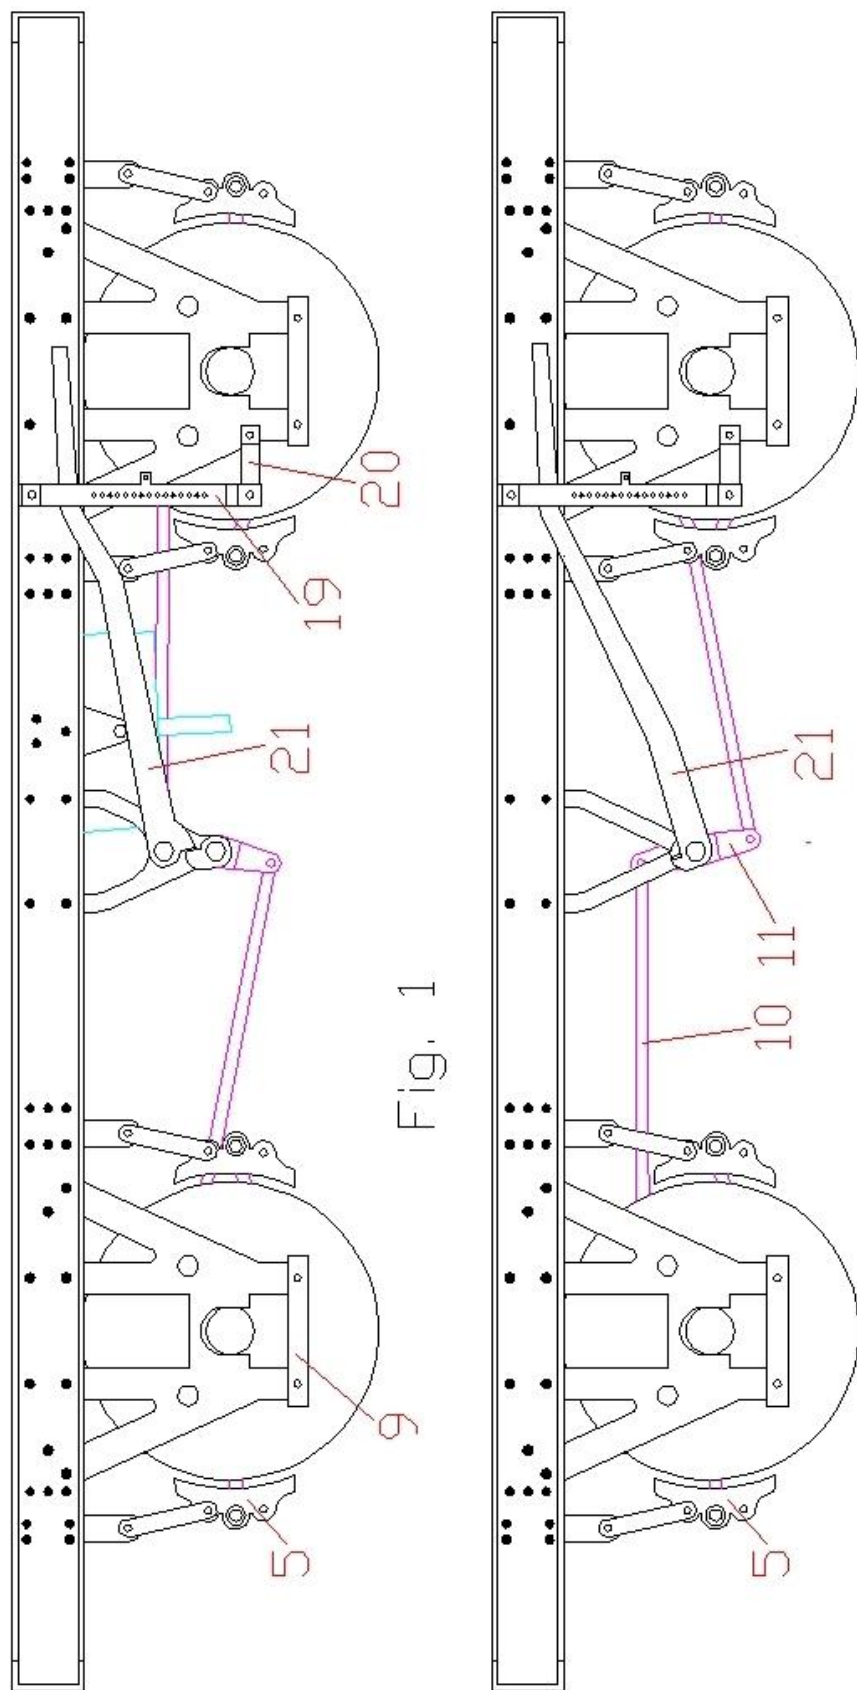

Fig. 1
The solebar detailing (15) comes contained in its own little fret. See Fig.1. On it you will find fabricated axle spring stops, number plates, label clips, a rectangle that is actually a block of wood on the real thing and some small round dual depth plates. I have no idea what the purpose of the last two items is but the rectangular block of wood was quite common and the round plates could be found on shock absorbing vans where the springs
There are 6 fabricated spring stops on the solebar detailing (15) fret (see Fig.1) which can be folded up and then soldered in place. I find a small pair of self closing tweezers good for this. Some wagons had round pattern spring stops though I'm not sure this applies to the LMS clasp brake chassis. I have used 1mm wire for these. I cut almost all the way through the wire with a piercing saw and then solder in place. The cut can then be completed without the joint breaking.
Next take the brakegear assembly and attach it to the chassis so that the yolks go through the holes in the brake shoes and the protruding pins in the brakegear linkage engage with the holes in the clasp brake hangers attached to the chassis top plate. See photos below. Note that there is a correct way around in relation to the Morton cam side of the vees. Refer to Fig.1 and 3b for the correct orientation. Solder in place.